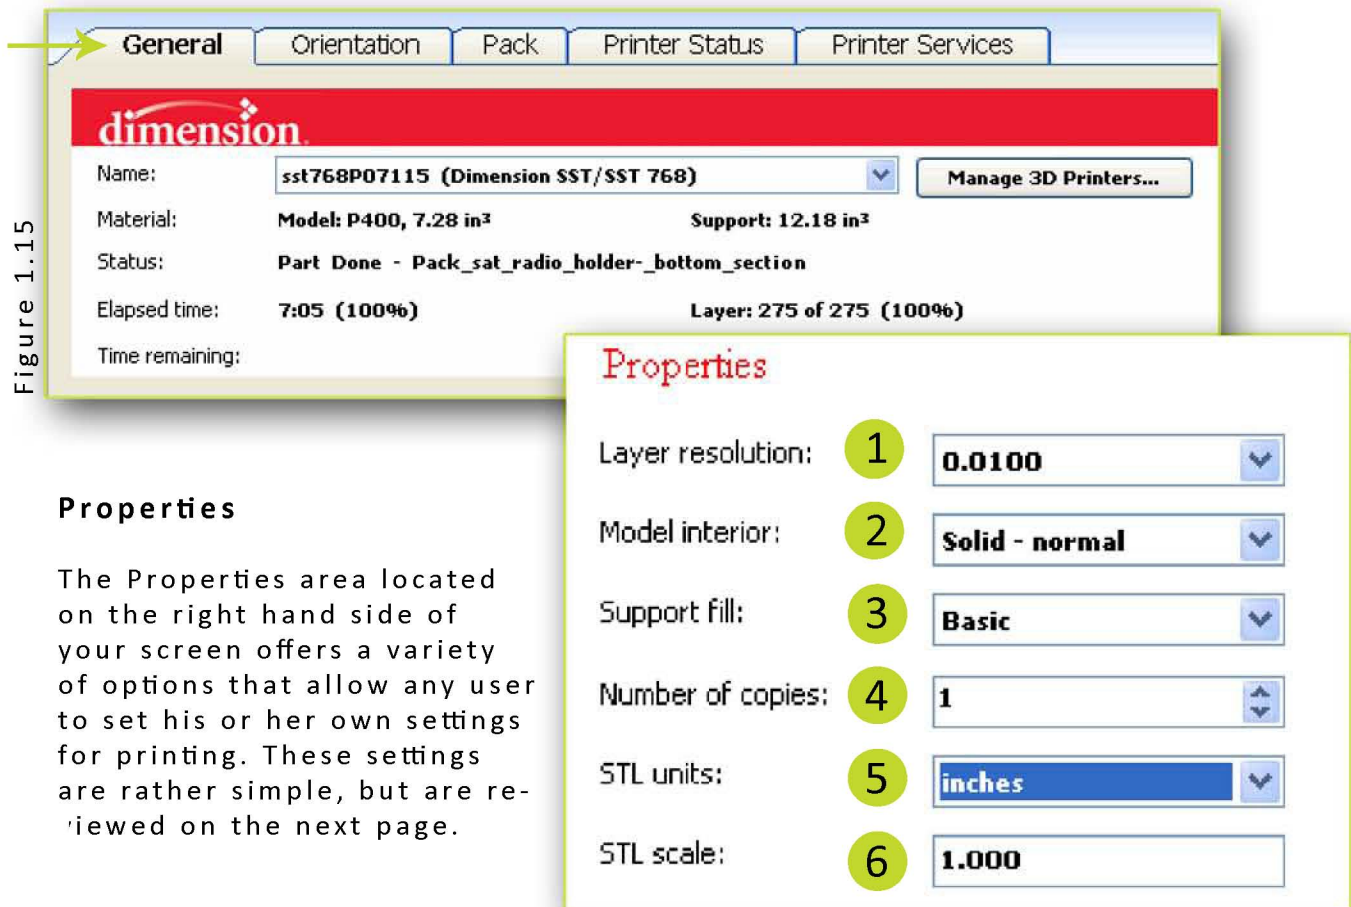

Figure 1.15
a. CatalystEX features multiple tabs located across the top of its window. See Figure 1.15. The first tab we will investigate is the 'General' tab. This area provides you with a default settings and status bar along the top, but more importantly; Property Options along the right side of your screen.